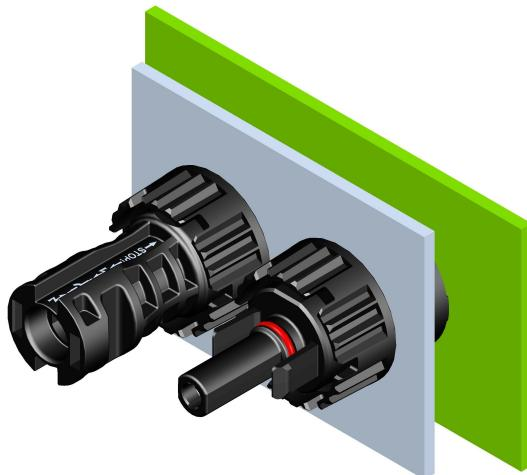

Figure 3
- ◇ 安装公/母面板连接器时，推荐用 2.0 N·m 的扭矩锁紧螺母。具体情况，需要由终端用户根据不同的面板验证合适的扭矩(如图 3)。
When installing the male or female panel connector, it is recommended to lock nut by 2.0 N.m torque. The appropriate torque has to be verified in the end use according to the respective housing (Fig.3).